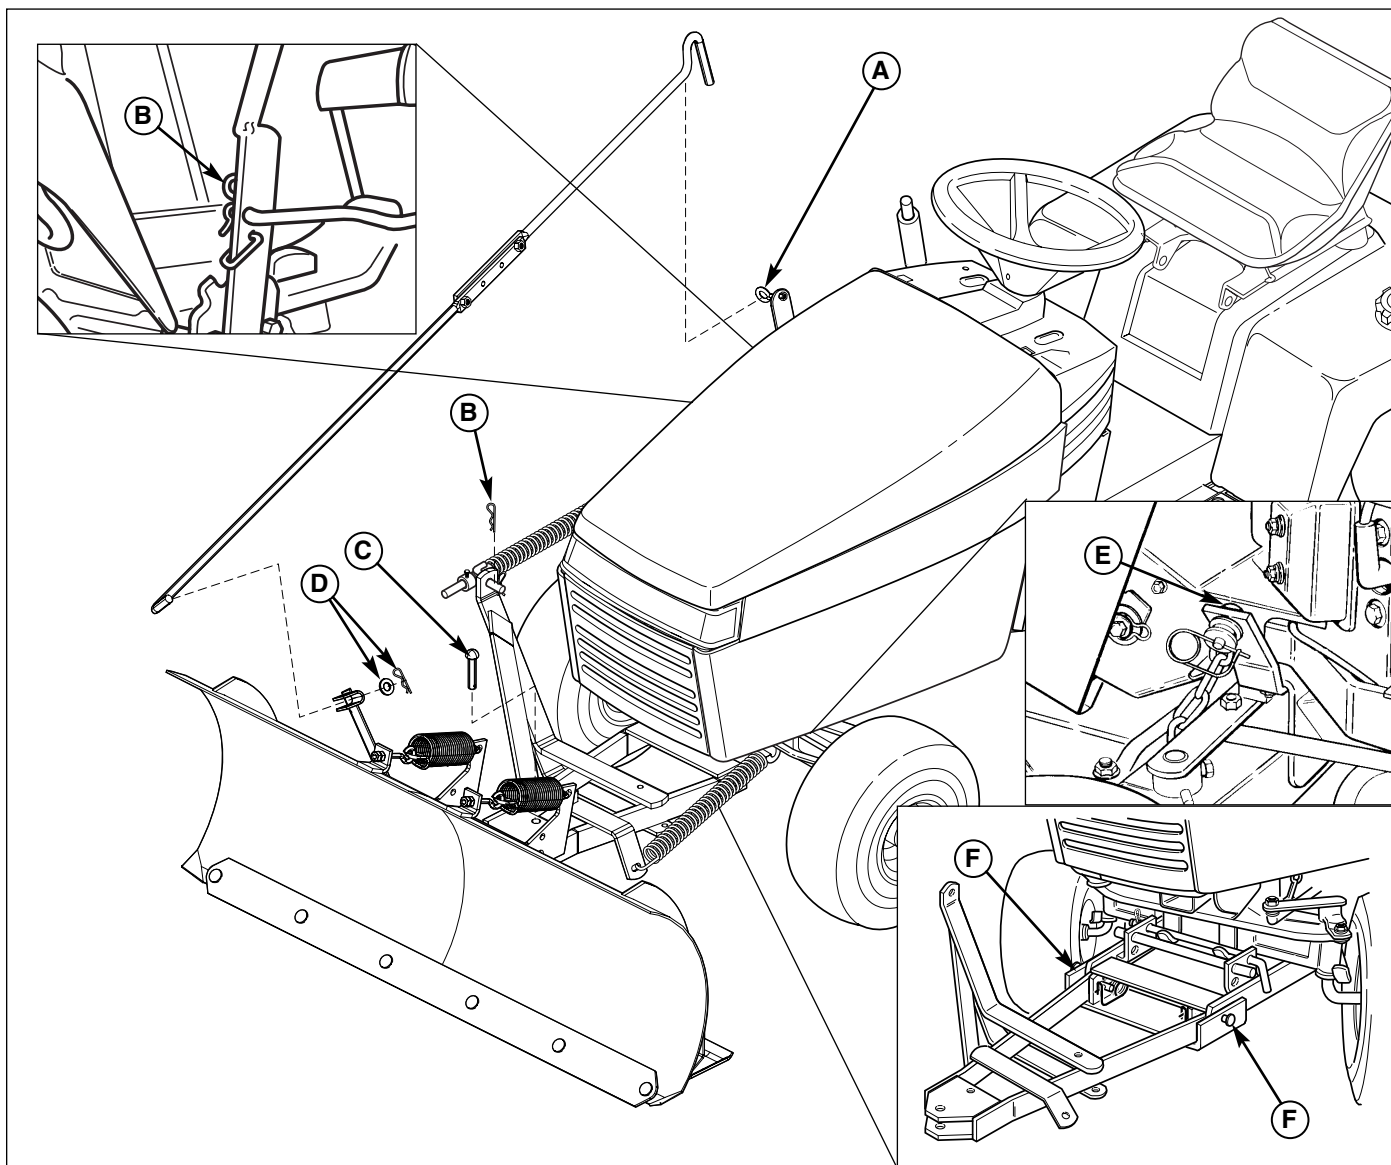

Figure 25. Dozer Removal
2. Remove the hair pin clip and washer (D, Figure 25) securing the angling control rod to the clevis. Disconnect the angling control rod.
3. Remove the angling control rod from the support arm (A).
4. Remove the pivot pin (C) connecting the blade and pushbar. Remove the blade.
5. Raise the push bar and remove pin (E) securing the chain to the chain bracket.
6. Lower the lift and remove the clip (B) securing the lift rod to the push bar and lift rod.
7. Remove the pins (F) securing the push bar to the tractor hitch.